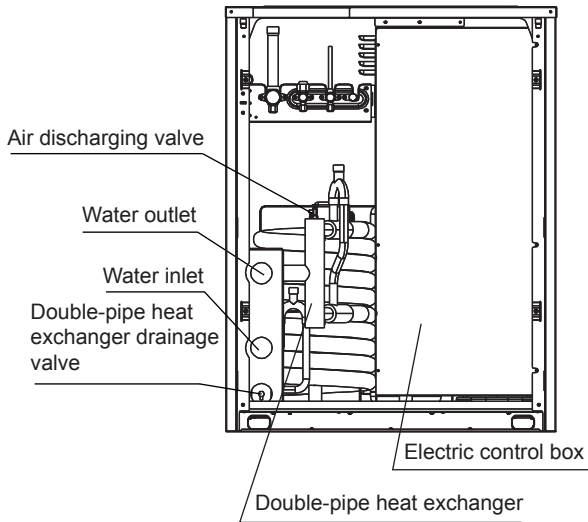
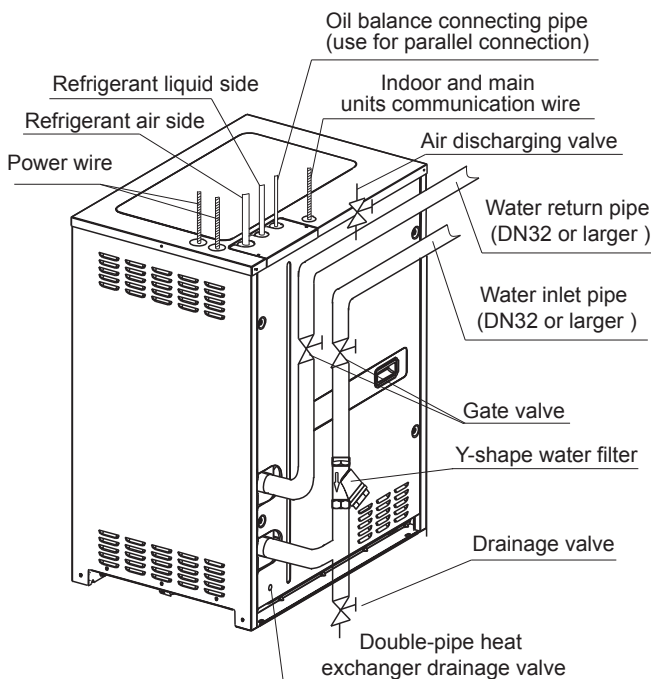

Fig. 5-1
Fig.5-5 Direction schematic diagram of water system pipes
- 5) inside the double-pipe heat exchanger and the water pipes should be drained out in case for being frozen. The water inside the double-pipe heat exchanger can be drained out by its drainage valve, the drainage valve position as Fig.5-1 display. The user can take down the front plate and open the drainage valve for water draining, and also can without taking down the front plate then use a straight screwdriver to go through the small hole in the front plate and open the drainage for water draining, the small hole position as Fig.5-5 display.